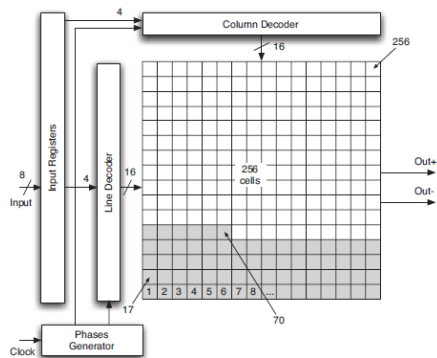

Figure 3.38. 8-bit DAC with thermometric selection of current cells.
- The **simplest** thermometric selection is **sequential** by lines and columns starting from **one corner** of the array. Fig 3.38 shows the block diag. Of a possible 8-bit DAC with 70 selected cells corresponding to the input code 01000110. A possible grading error in  $x$  and  $y$  directions causes **INL**.